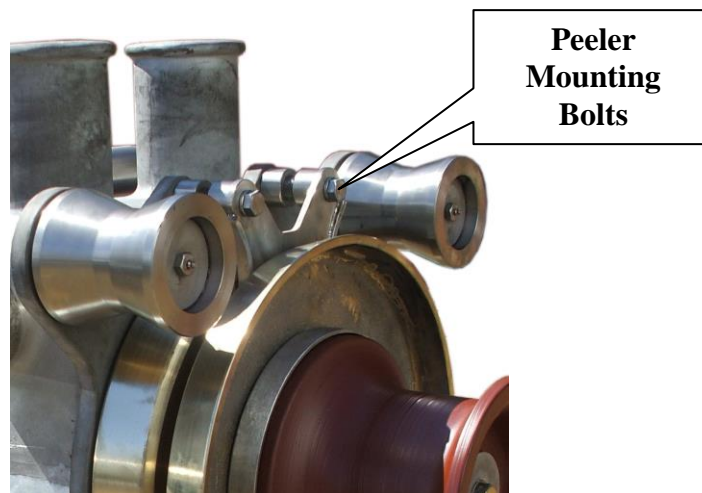

Fig 9. Splitter Mounting Bolt Location
- 1) Remove the Stainless Steel Splitter from its mounting block by removing the two Large Bolts which secure the Splitter to the Winch Splitter Block. See Figure 9 for Splitter Bolt Location.